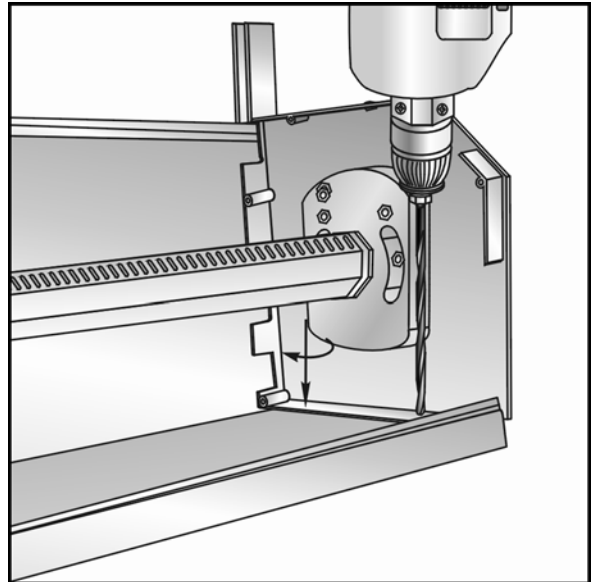

Fig. 2.10
- for the built-in mounting—drill two holes in the top raised edge of each end cap (*fig. 2.10*);